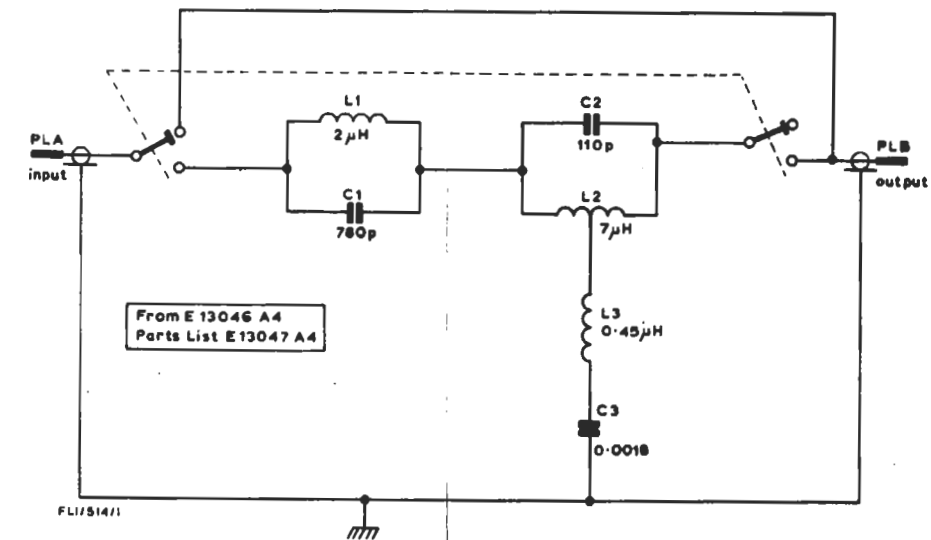

Fig. 1. Circuit Diagram of the FL1/514
The FL1/514, see Fig.1, comprises a parallel resonant section tuned to
4.43 MHz followed by an all-pass constant resistance section. The latter section compensates for group-delay caused by the tuned circuit. The capacitor designated C1, in Fig.1, comprises two separate capacitors chosen to have a total combined capacitance of 780 pF.